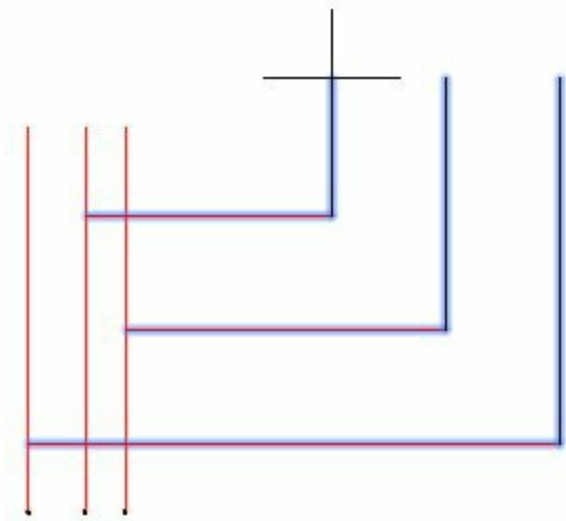

Figure-12. Wire bus from another wire bus
- Select the middle wire from the already existing wire bus. The ends of the current wire bus will get attached to the cursor; refer to Figure-12.